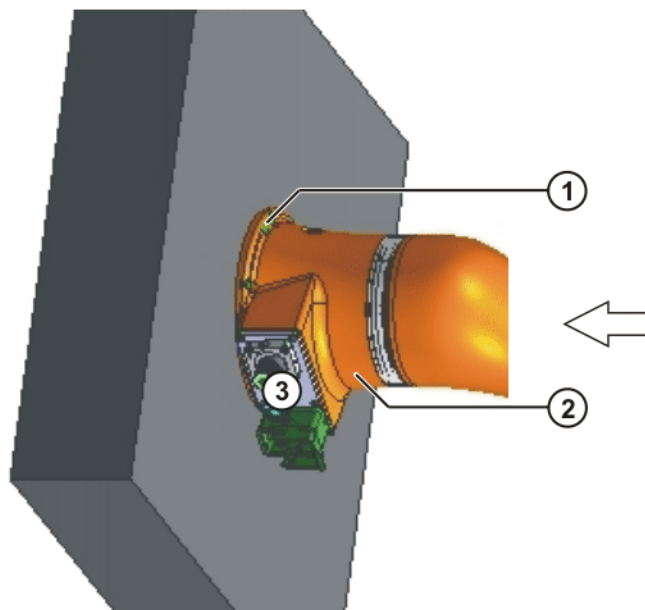

Fig. 8-2: Installation on the wall
3. Place the robot horizontally onto the mounting base at an angle of 90 degrees. Ensure that an entirely horizontal position is maintained in order to prevent damage to the locating pin (>>> Fig. 8-2).